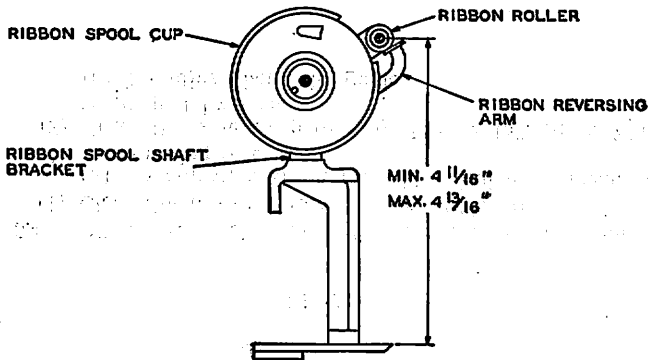

Fig. 21
3.42 **Ribbon-spool cups.** The centers of the ribbon-spool cup rollers shall be Min.  $4\frac{11}{16}$ " , Max.  $4\frac{13}{16}$ " from the base-plate. **Fig. 21**